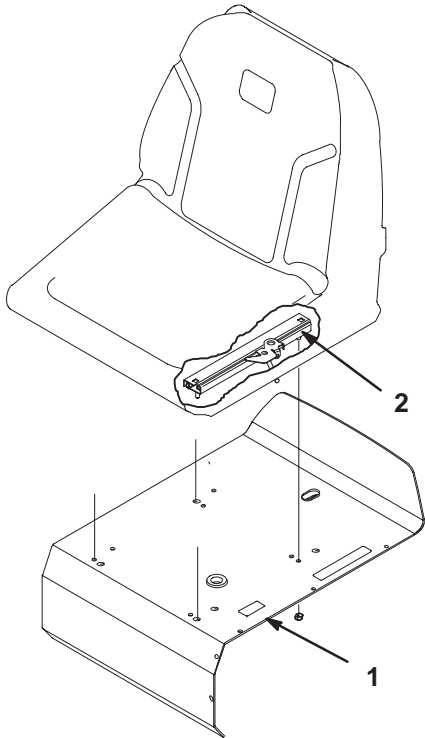

Figure 3
3. Secure the seat slides to the seat support with 4 locknuts (5/16 in.) supplied in the loose parts (Fig. 3).